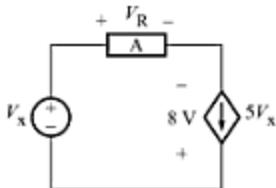

Fig. A-55
- A-6. In the circuit shown in Fig. A-55, if $V_x = 1 \text{ V}$ and $V_R = 9 \text{ V}$, calculate (a) the power absorbed by the element *A*, (b) the power supplied by each of the two sources. [Ans. (a) 45 W ; (b) $5 \text{ W}, 40 \text{ W}$]